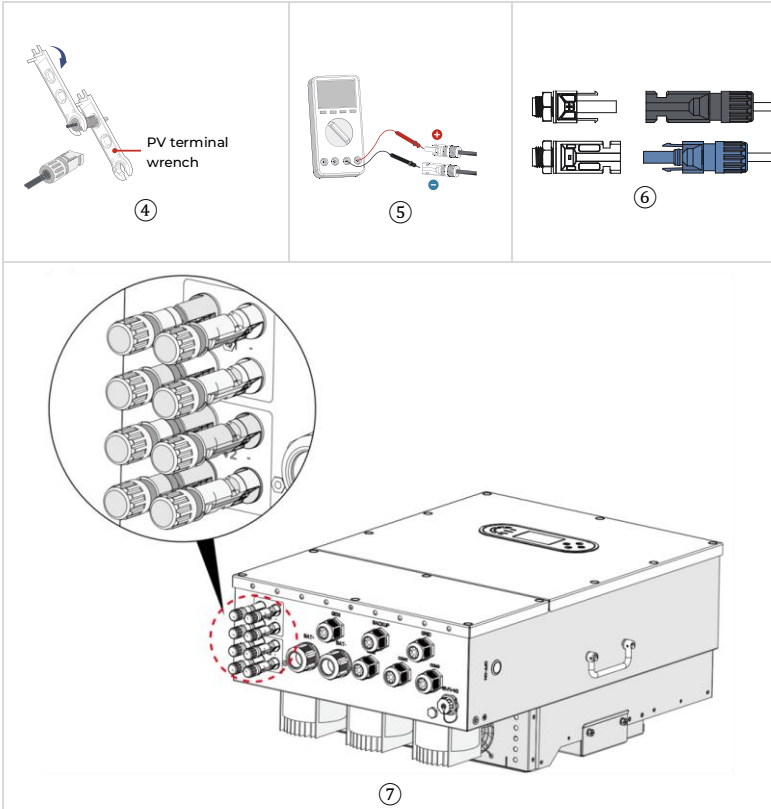

Figure 5-3 Connect PV
Step 2 Remove the insulation layer with an appropriate length from the positive and negative power cables by using a wire stripper as show in Figure 5-3①.
Step 3 Insert the stripped positive and negative power cables into the positive and negative metal terminals respectively and crimp them using a crimping tool. Ensure that the cables are crimped until they cannot be pulled out by force less than 400 N, as shown in Figure 5-3②.
Step 4 Insert crimped power cables into corresponding housings until you hear a "click" sound. The power cables snap into place, as shown in Figure 5-3③.
Step 5 Reinstall cable glands on positive and negative connectors and rotate them against the insulation covers, as shown in Figure 5-3④.
Step 6 Use the multi-meter, measure the PV port voltage Uoc, and then make the connection with the inverter to prevent live operation, as shown in Figure 5-3⑤
Step 7 Insert the positive and negative connectors into corresponding PV terminals of the inverter until you hear a "click" sound, as shown in Figure 5-3⑥⑦.